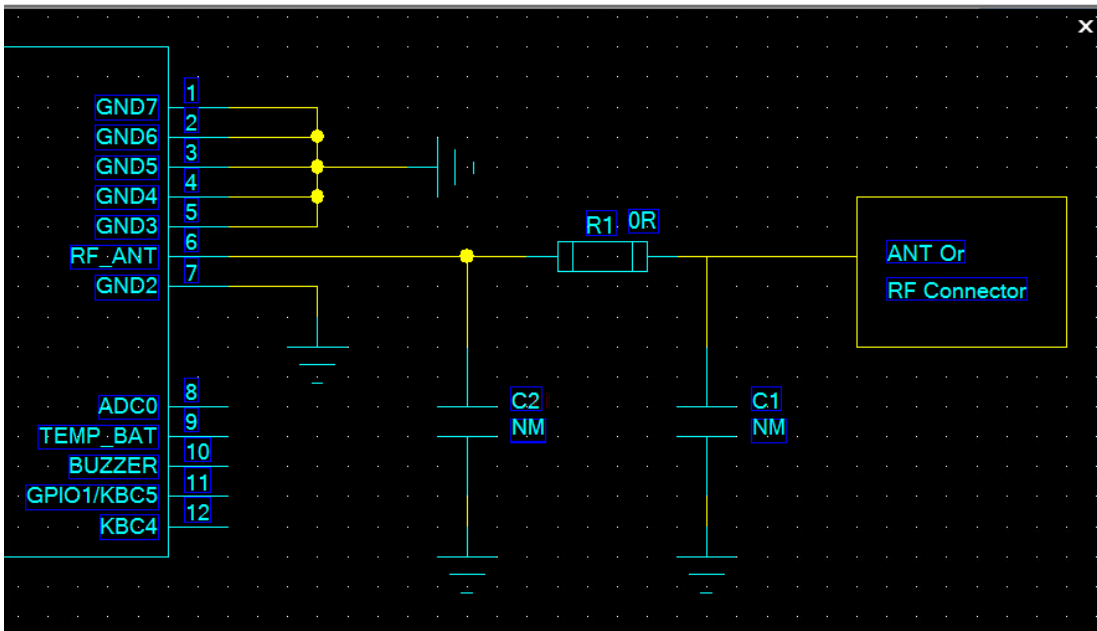
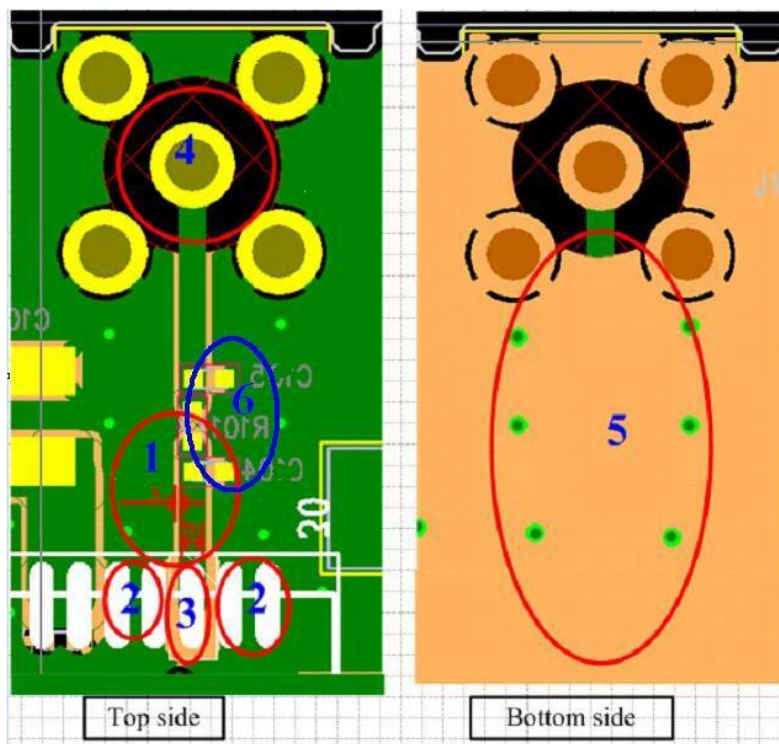

Figure 1: Reference Schematic Diagram of the RF Module
Figure 6: PCB LAYOUT Instance Diagram
- 1) Strictly control the Microstrip Linewidth (W) and Ground Clearance (S) corresponding to 50-ohm coplanar waveguide. For example, with the common PCB plates as FR4 media (dielectric constant 4.2) and copper coating thickness 35um, the Microstrip Linewidth (W) and Ground Clearance (S) corresponding to the different signal layers are shown in Table 1. It is particularly reminded that PCB factories need to control Microstrip Linewidth (W) and Ground Clearance (S) accuracy.
- 4) When connecting the components package, it should be noted that the signal pin should be kept at a certain distance from the ground. Refer to Figure 6. Please do not lay copper at the bottom of the signal pad.
- 6) The π type matching circuit is normally constituted of 3 components (as shown in Figure 1). When designing, the pad should be placed close to the antenna (as shown in the above figure 6). If the space between the antenna connector (SMA) and the RF pin of the module is not enough (impossible to place the three components of the π matching circuit), it can be changed to an L-shaped matching circuit.